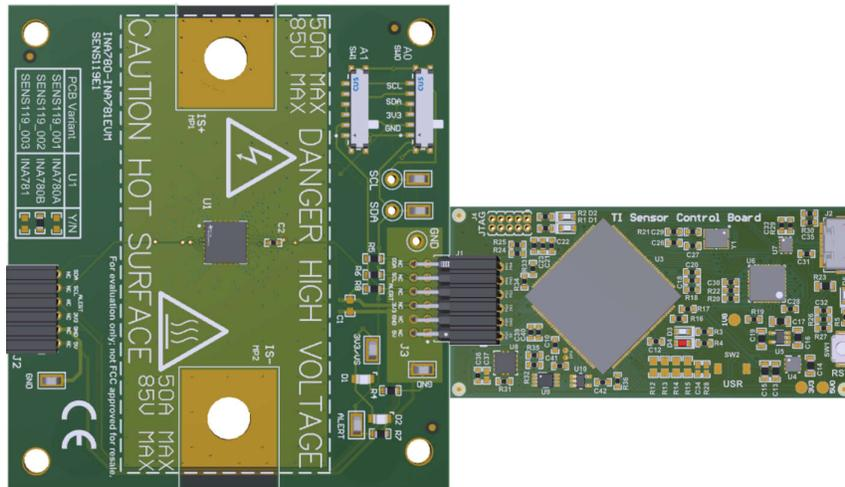

Figure 2-1. EVM (Bottom) Connected to SCB Controller (Top)
3. Attach the EVM to the SCB Controller as shown in Figure 2-1.
To use the EVM with the SCB Controller (sold separately), connect the EVM as shown in Figure 2-1.